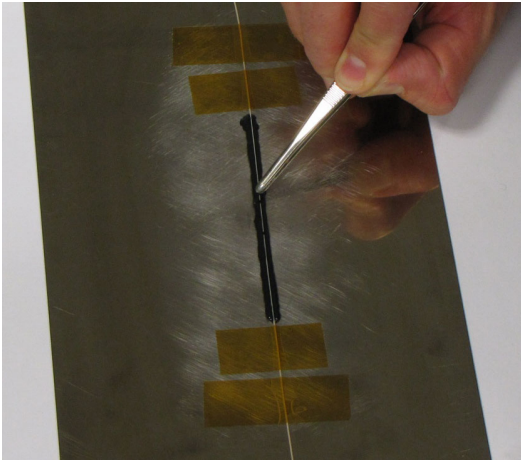

Fig. 2.12 Pressing down the optical sensor fiber FS70PKF with rounded tweezers
- ▶ Press the optical fiber gently to the epoxy adhesive, ensuring a full embedment of the fiber into the glue and that the fiber stays as close as possible to the component surface using rounded tweezers (Fig. 2.12).